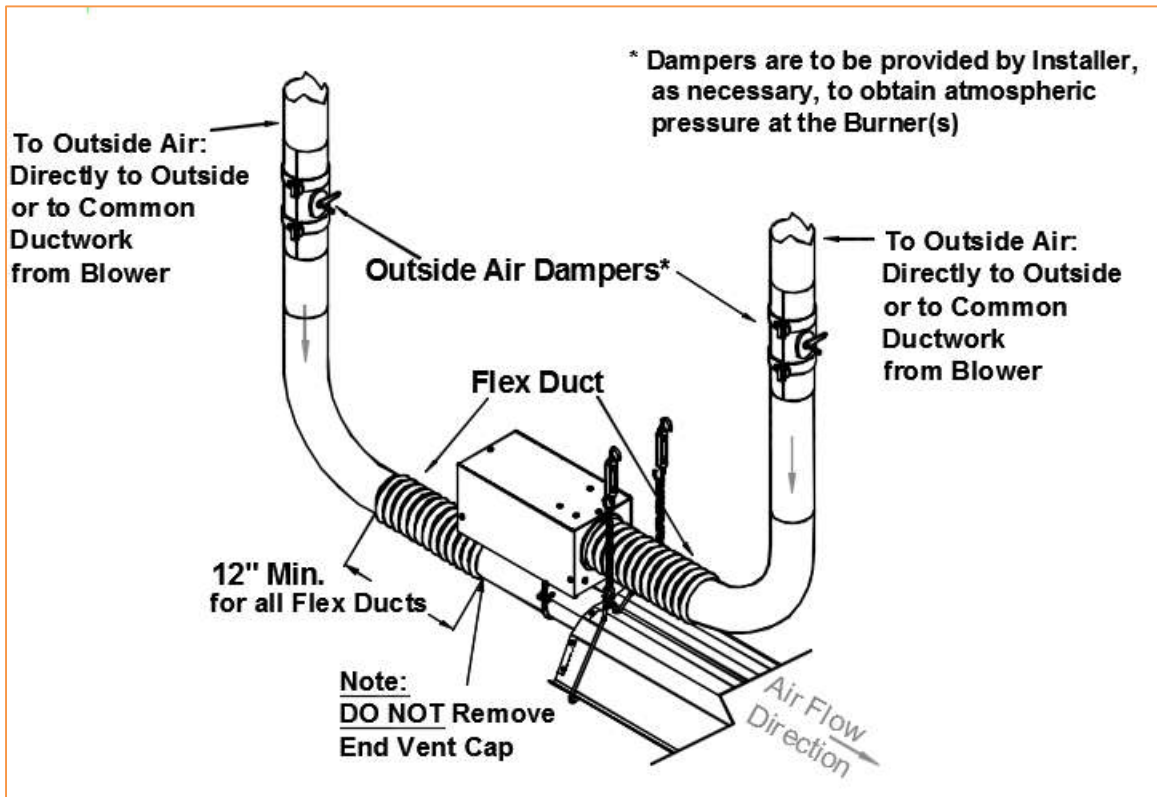

Figure 37: Outside Combustion Air Detail
3. Each Burner can be fitted with a 4” dia. fitting to accept 4” dia. Type C-Duct or 4” PVC pipe. Provision for thermal expansion of the System must be made when considering Combustion Air Supply Ducting. Ensure that the System movement/expansion does not restrict the supply of fresh air to the Burners or the Radiant Branches. (Refer to Figure 37 for clearance requirements)
As required, connect the Supply Ductwork in the same manner as for the Burner. (Refer to Figure 37 for details), DO NOT remove the End Vent Cap from the Radiant Branch to make this connection.